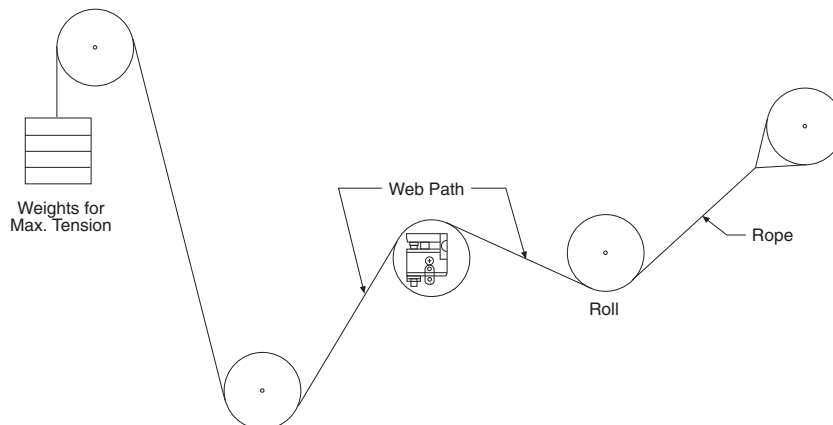

Figure 10
2. With one end of the rope secured, hang a known weight equally over the roll so that the total tension is equal to the maximum strip tension specified on the calibration sheet, at the other end. (See Figure 10)